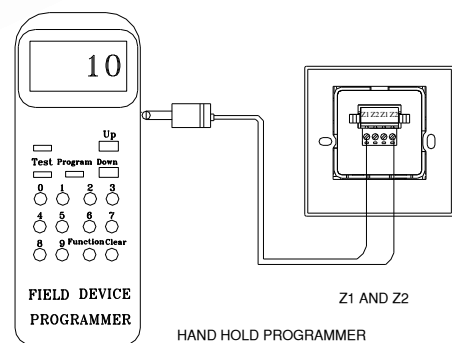

Fig. 3
2. The MCP should be programmed using P-9910B programmer, shows in Fig.3. Please refer to P-9910B Hand Held Programmer Installation and Operation Manual.